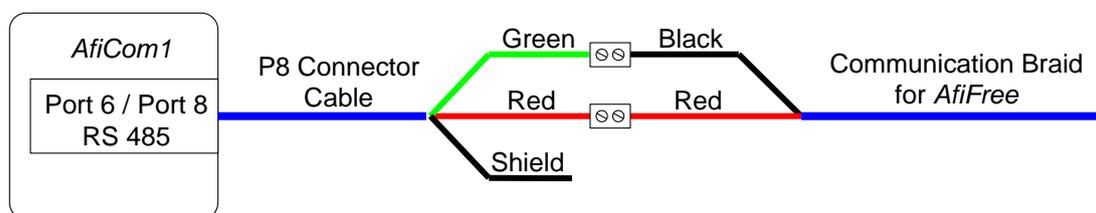

Figure 23: Connecting the PC
5. Connect the communication cable to the P8 connector cable (Figure 23).